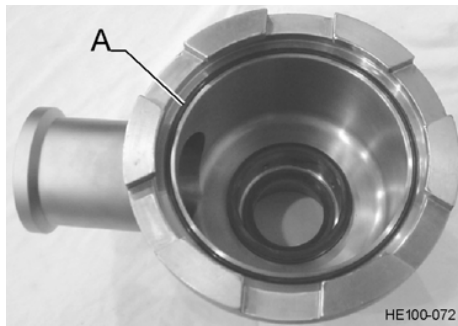

Figure 32 - Drive End Head O-ring
- If the drive end head has been removed, make sure the o-ring (See Figure 32, Item A) is installed. Lubricate it lightly.